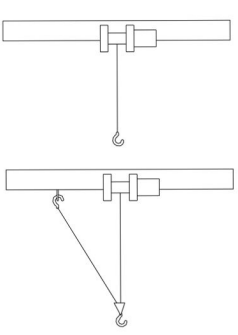

Figure 1
b. **DO NOT OVERLOAD.** Be sure that any item to be moved falls within the maximum line pull rating of the winch. The use of a pulley block is recommended to double line the wire rope and reduce the load on the winch, on the rope (steel or synthetic), on the motor and on the battery. Where used, the pulley block should be rated to a minimum of twice the winch's line pull rating. **SEE FIGURE 1**